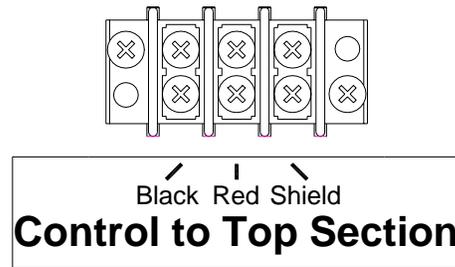

Figure 8 Control to Top Section Connections
3. Connect the cable to the terminal block labeled **Control to Top Section** according to Figure 8.